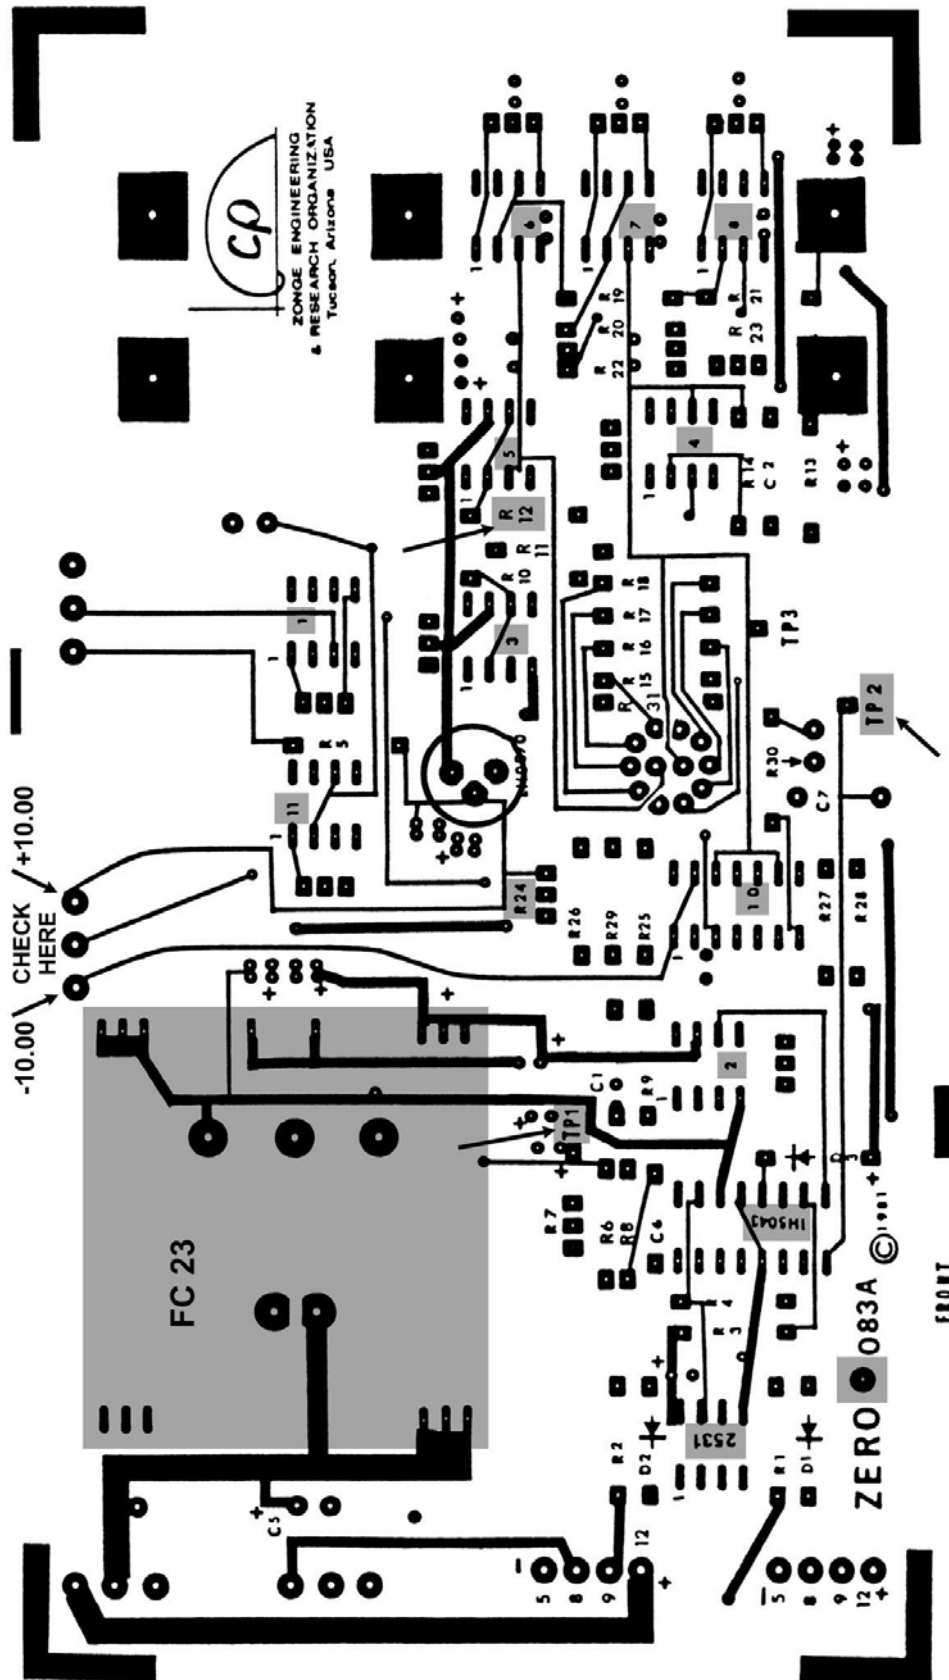

Figure 6 LDT-10B Board 83A
5. LDT-10 Board Alignment *(see Figure 6)*